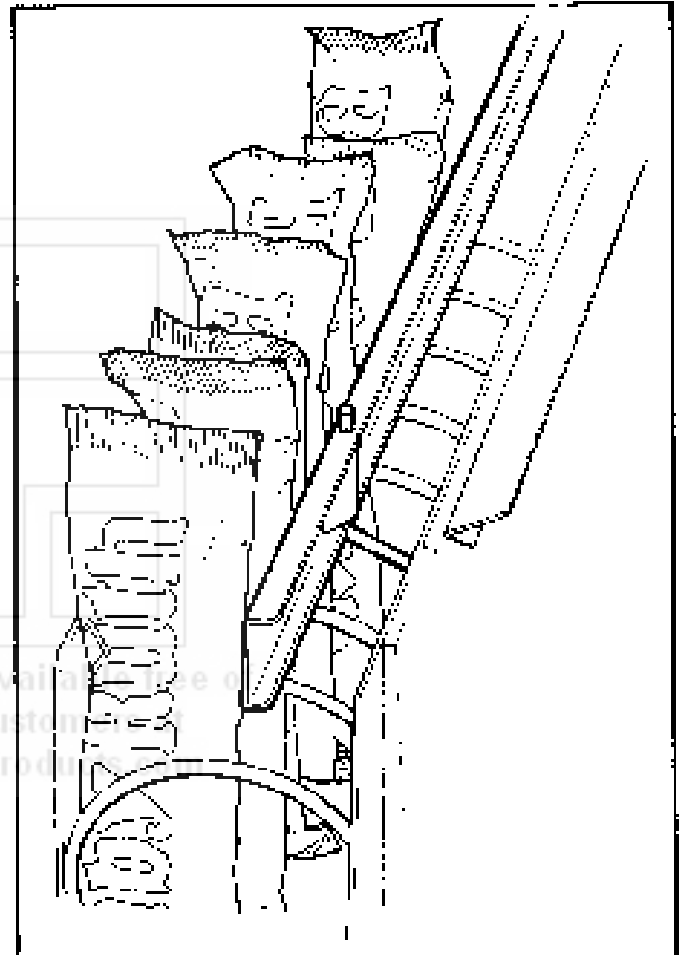

Figure 6. 10 SELECTION SHELF PRODUCT SPACER POSITIONED TO HOLD CANDY UPRIGHT.
8. **PRODUCT SPACERS- 10 SELECTION SHELF:** The 10-selection shelves are equipped with a product spacer (see Figure 6) that can be pivoted from the right side of each product space. These spacers should be pivoted out to hold the product upright, but not tight against the product. Leave about 1/8" clearance between the spacer and the product.